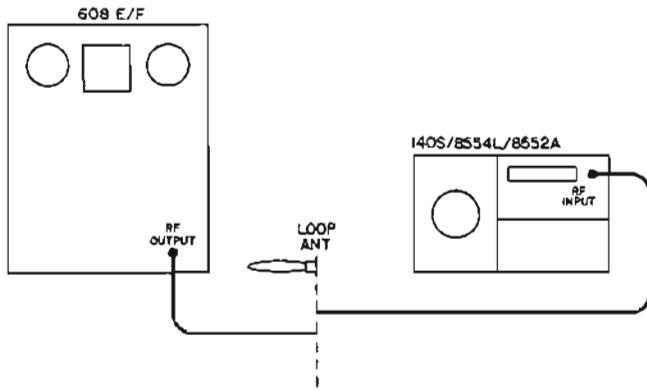

Figure 5-10. RF Leakage Test Setup
a. Connect signal generator in test setup illustrated in Figure 5-10.